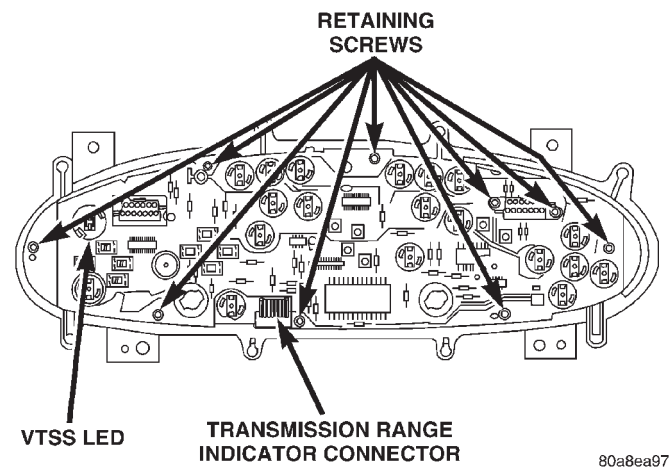

Fig. 9 Printed Circuit Board
- (1) Remove six cluster back cover retaining screws and remove the cover.
- (2) Disconnect odometer/transmission range indicator connector from the printed circuit board.
- (3) Remove nine printed circuit board attaching screws and remove. There are two screws located at the base of each connector (Fig. 9).